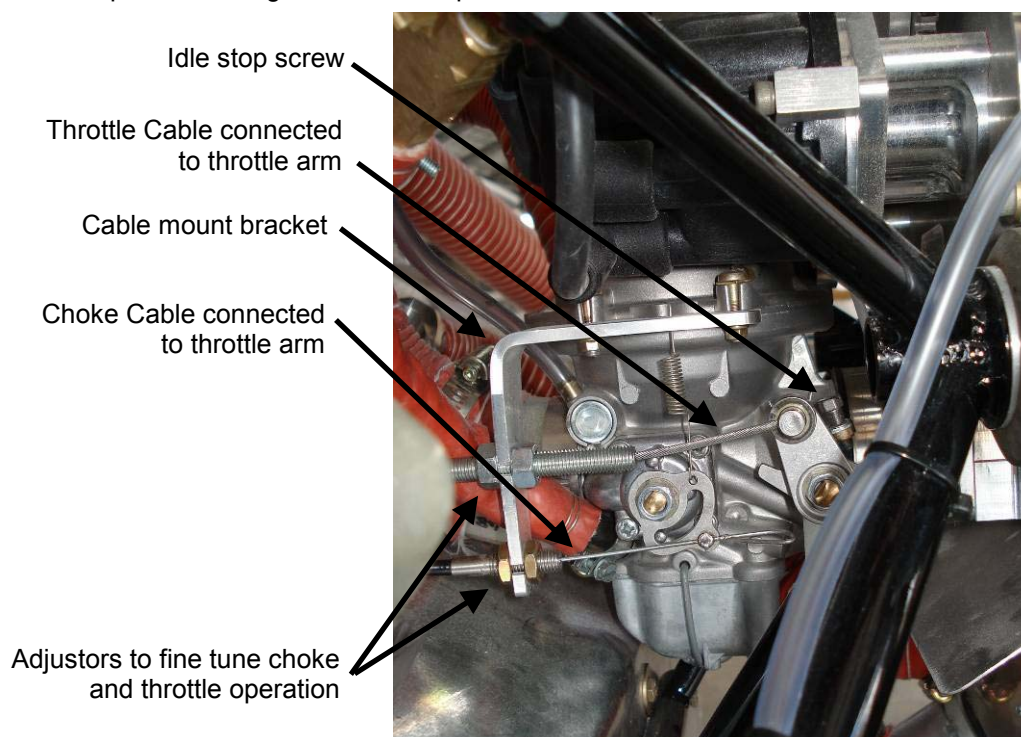

Figure 6. Choke and Throttle Connections to Carburettor
- The cables for the choke and throttle can be adjusted using the adjuster screws and nuts shown in Figure 6. A 7mm spanner is required.
- All Jabiru engines are run-in on a Dynamometer before delivery. It is impossible to accurately set the idle RPM when the engine is on the dynamometer, so the Idle Stop Screw (shown in Figure 6) must be adjusted as a part of the engine installation process.